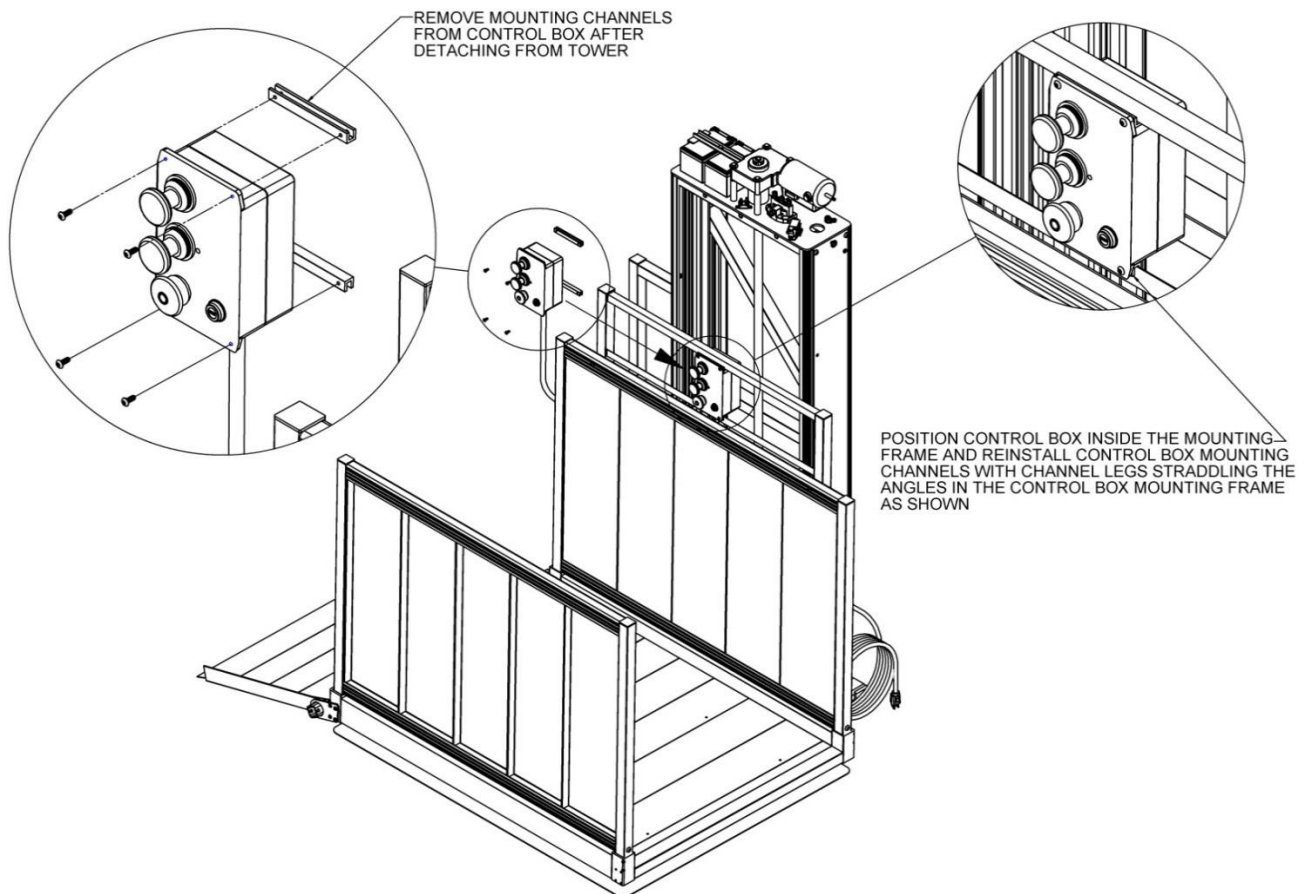

FIG. 4.9
11. Install control box mounting frame to rear guard wall by first removing nuts and bolts from control box mounting frame posts (FIG. 4.9).
12. The control box is secured to inside of tower with zip ties. Locate and cut the zip ties to free the control box (FIG. 4.9).